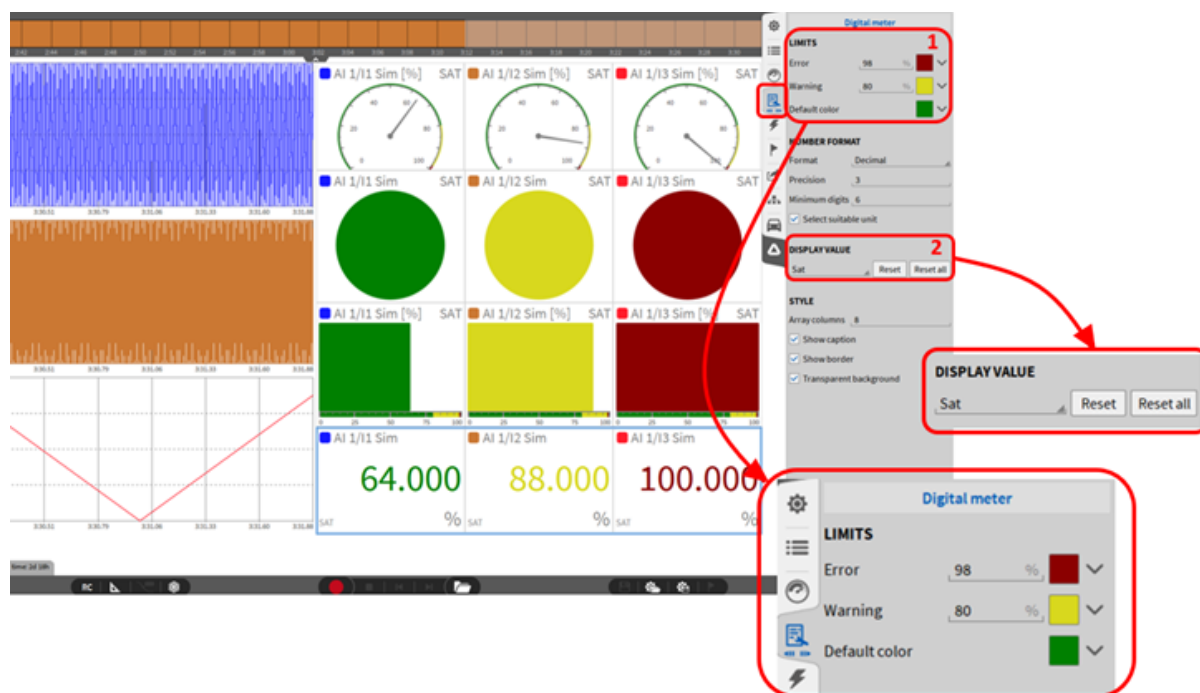

Fig. 8.115: Saturation visualization of channels
After adding one of the previously listed instruments to the measurement screen, the “Sat” (saturation) mode must be selected as the display value in the settings of the respective instrument. (see ② in Fig. 8.115). By pressing the “Reset” button, the selected instrument will be reset, by pressing “Reset all”, all saturation displays will be automatically reset (instruments other than the selected instrument too). After selecting the display value “Sat”, the colors as well as the limit values for the display can be changed if required (see ① in Fig. 8.115).